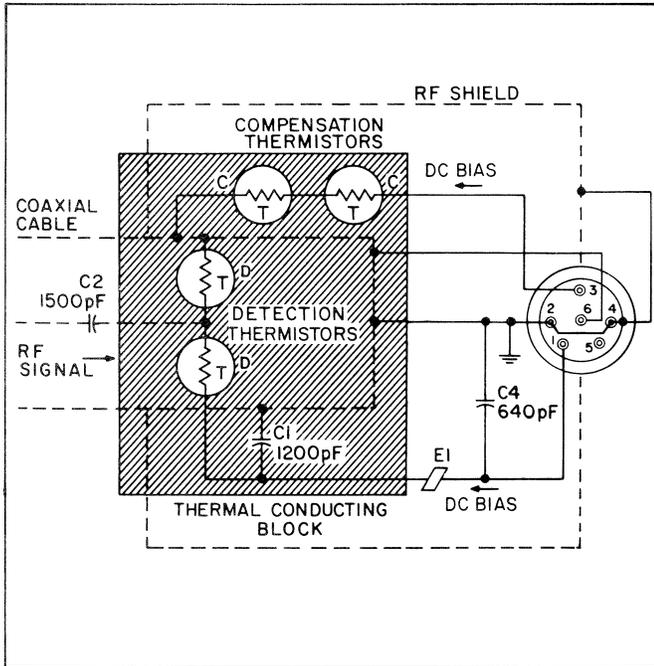

Figure 6. Schematic Diagram of a Model 478A Thermistor Mount when Connected to a 432 Power Meter
52. During 432 operation (see Figure 6) sufficient amounts of dc current are supplied from 432 Power Meter to heat the thermistors until their resistances are reduced to approximately 200 Ω per series pair. Capacitor C1 is practically a short to RF. This causes "D" to appear series connected to the dc bridge, parallel connected to RF. In this manner, "D" appears to the dc bridge in the 432 Power Meter as a 200 Ω resistance that terminates the coaxial cable into 50 Ω . Capacitor C2 blocks any dc and audio power that may be present in the incoming signal and passes only RF power.
56. Under normal operation the total power applied to heat thermistor pair "D" (see Figure 6) consists of: 1) RF signal and 2) heat from the environment. The total power supplied to heat thermistor "C" consists of: 1) dc bias and 2) heat from the same environment. As "D" and "C" are matched thermally, the total amounts of heat applied to reduce their series resistance equally must be equal.
60. Match between the thermistors may be checked by comparing the thermistor resistances under simulated operating conditions. Equipment required is indicated in Figure 6. Make connections to the connector at the rear of the thermistor mount; pins are shown in Figure 6. Note that the small battery in series with the HP Model 3440 Digital Voltmeter is connected in opposition